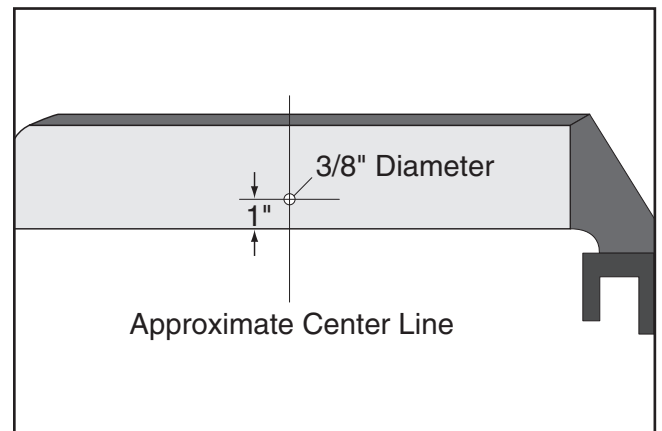

Figure 2. Diagram for drilling the hole.
1. Measure the center-point of the hole (see **Figure 2**) and pencil it in on the face of the fence.